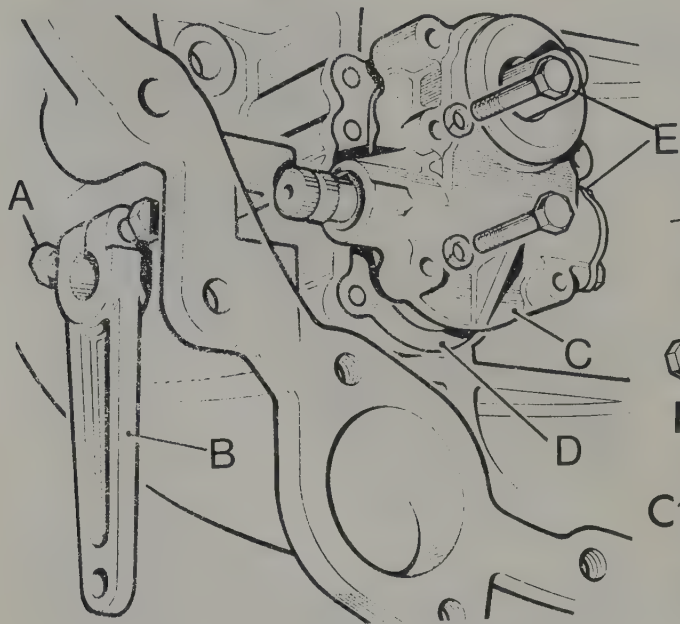

Fig. 5.21. Removing the clutch withdrawal unit
- 4 Remove the securing bolts from the withdrawal unit housing, and remove the housing. Note the jointing washer which will have to be renewed on reassembly (Fig. 5.21).